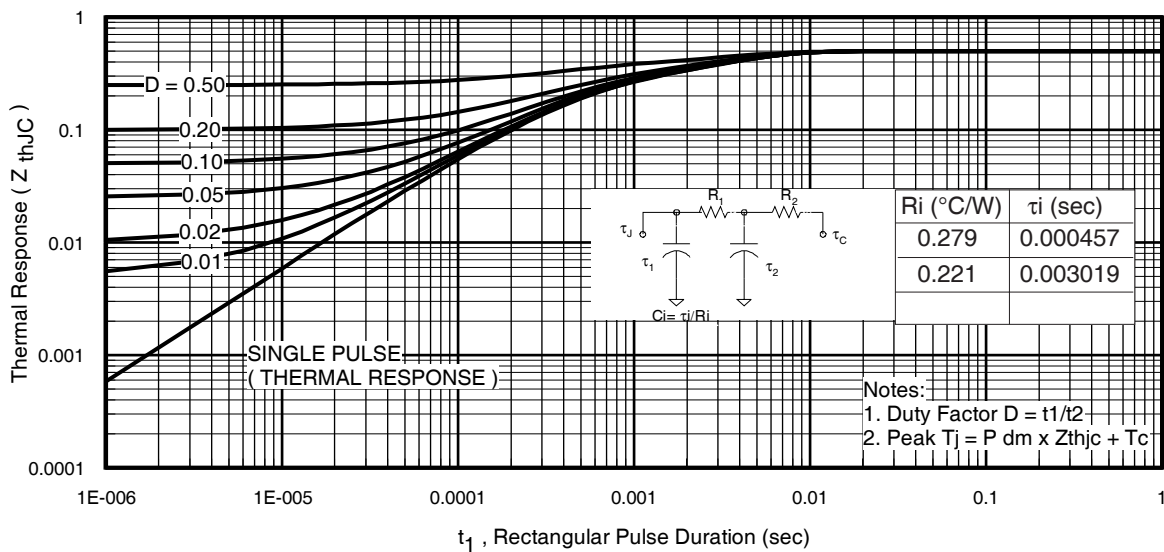

Fig 11. Maximum Effective Transient Thermal Impedance, Junction-to-Case
- ① Repetitive rating; pulse width limited by max. junction temperature. (See fig. 11).
- ② Limited by T_{Jmax} , starting $T_J = 25^\circ\text{C}$, $L = 0.095\text{mH}$, $R_G = 25\Omega$, $I_{AS} = 75A$, $V_{GS} = 10V$. Part not recommended for use above this value.
- ③ $I_{SD} \leq 75A$, $di/dt \leq 340A/\mu s$, $V_{DD} \leq V_{(BR)DSS}$, $T_J \leq 175^\circ\text{C}$.
- ④ Pulse width $\leq 1.0\text{ms}$; duty cycle $\leq 2\%$.
- ⑤ $C_{oss\ eff.}$ is a fixed capacitance that gives the same charging time as C_{oss} while V_{DS} is rising from 0 to 80% V_{DSS} .
$Z_{thJC}(D, t_{av})$ = Transient thermal resistance, see figure 11)